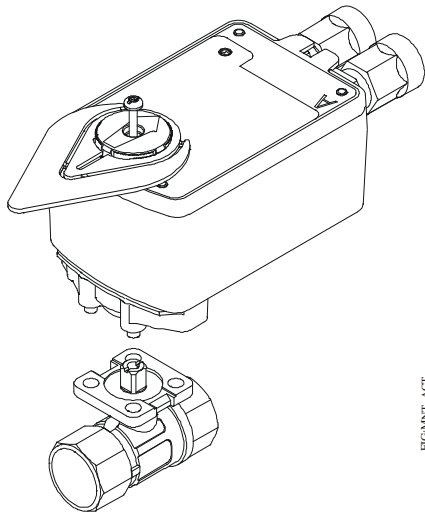

Figure 9: Mount the Actuator
7. Install the actuator on the ball valve (Figure 9). Tighten the actuator mounting screw to a torque of 10 to 12 lb-in. (1.1 to 1.4 N·m) and snap the large adjustable pointer into place.